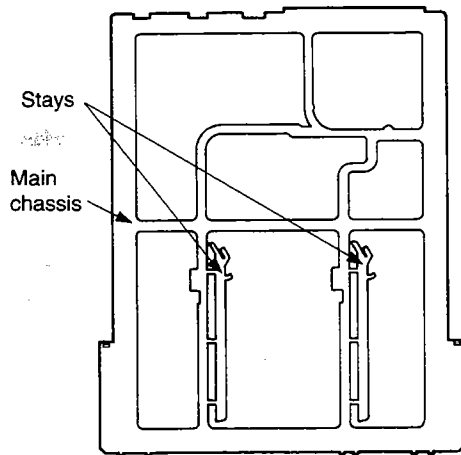

Fig. 3-1
To service the bottom of a main chassis, refer to Fig. 3-1.
1. Cut stays off on the bottom of the main chassis, refer to Fig. 3-1